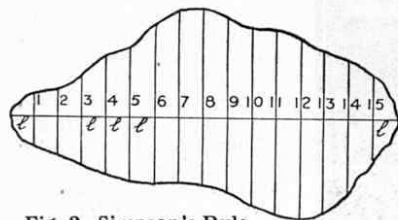

Fig. 2. Simpson's Rule
(2) By Calculation. In this method we find the length of the figure by drawing inside the area, and bounded by the edges of the area, the longest straight line possible (Fig. 2). We then divide this line into an even number of small equal parts, and draw through each division a line at right angles to the length of the figure. The additional lines so obtained are called "ordinates" and again are bounded by the edges of